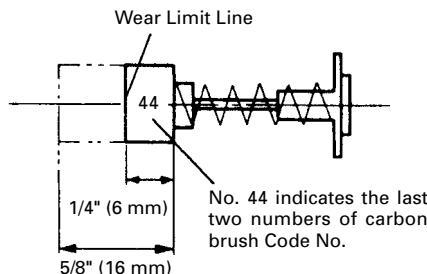
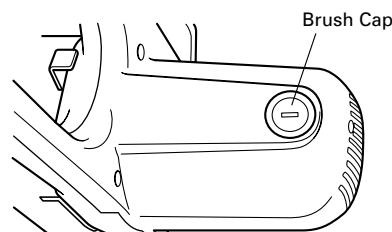

Fig. 29
Fig. 30
2. Inspecting the carbon brushes (Fig. 29 and Fig. 30)
Therefore, inspect the carbon brushes periodically and replace them when they have become worn to the wear limit line as shown in Fig. 29.
The carbon brushes can easily be removed after removal of the brush caps (see Fig. 30) with a slotted (minus) screwdriver.